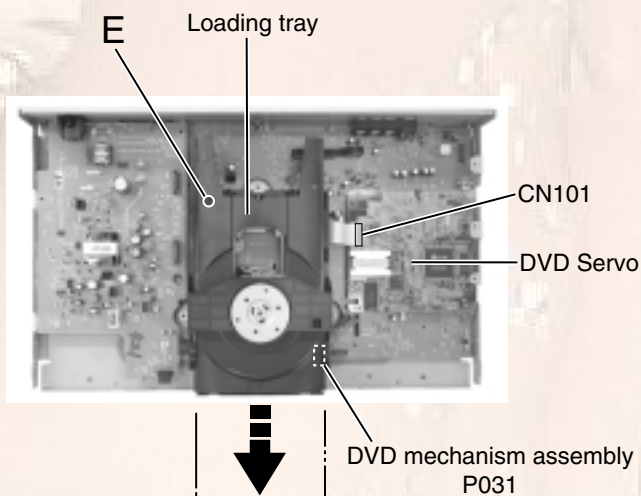

Fig.11
■ Removing the DVD mechanism assembly (See Fig.11 to 14)